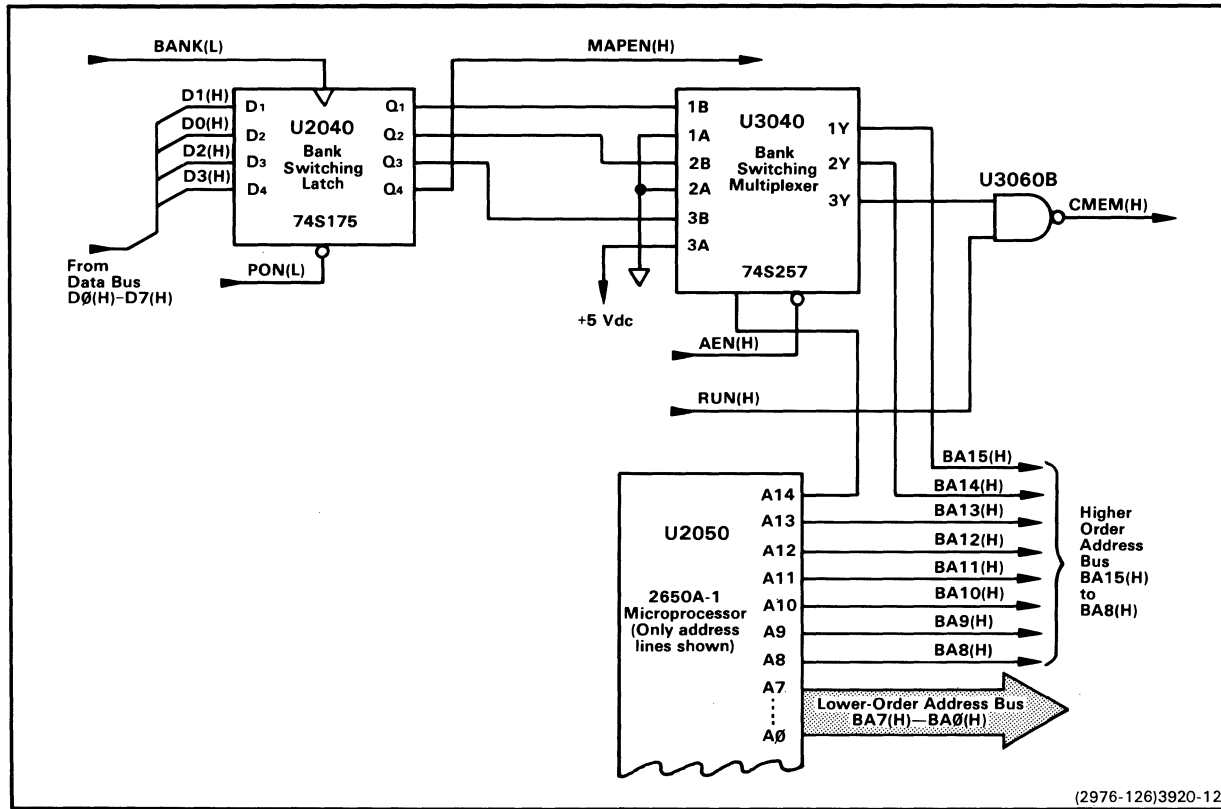

Fig. 4-10. Bank switching simplified schematic..
Refer back to Table 4-7. Note that during a write to I/O port address EE, control line BANK(L) is low. Figure 4-10 is a simplified schematic of the bank switching circuitry. Refer to Fig. 4-10 as you read the following description of bank switching.
Note in Fig. 4-10 that data bit D3(H) controls the state of MAPEN(H), when the bank switching latch is clocked. When D3(H) is high, the memory map and write protect circuitry can be enabled. MAPEN(H) is one of the inputs to NAND gate U4060, the memory map and write protect detector.